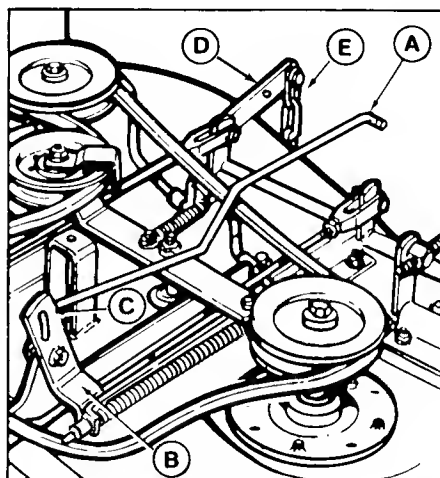

Figure 1. PTO Rod Connection - 36" Mower Shown
If there are two holes in the mower lift bracket (D, figure 1), make sure the chain (E) is connected to the rear hole.
2. The PTO rod must be attached to mower PTO arm before sliding mower under tractor. Insert the end of the PTO rod from the right-hand side and work the "S" bend around until rod (A, figure 1) appears as shown.